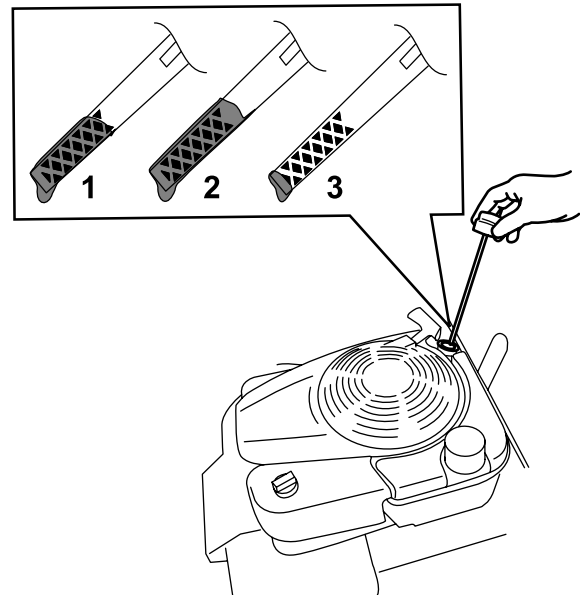

Figure 29
3. Remove the dipstick by rotating the cap counterclockwise and pulling it out (Figure 29).
10. Read the oil level on the dipstick (Figure 29).